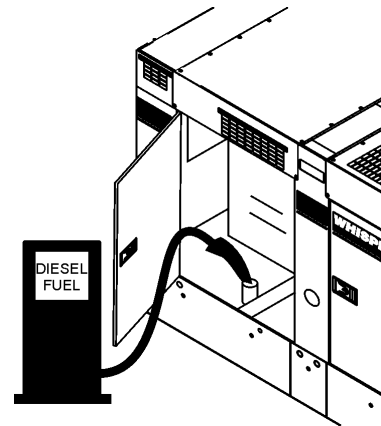

Figure 30. Fueling the Generator
5. Open cabinet doors on the “right side” of the generator (from generator control panel position). Remove fuel cap and fill tank (Figure 30).